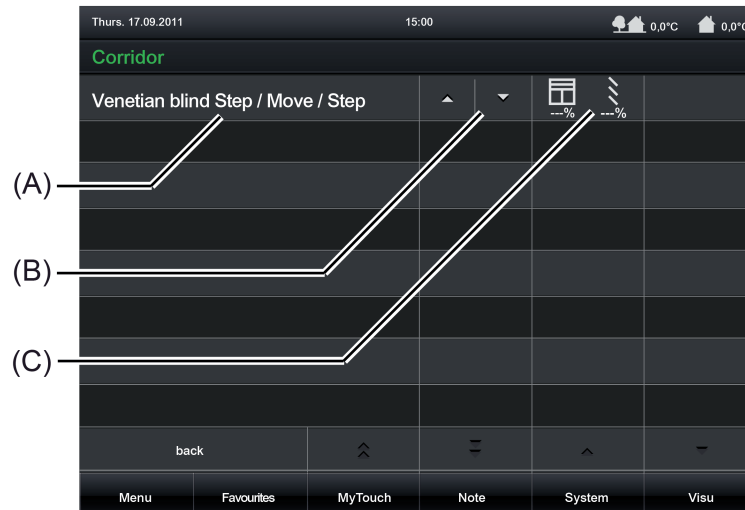

Figure 21: Example of operating and display elements of the function "Venetian blind Step / Move / Step"
The display area contains different display elements (Figure 21) that are influenced by parameters. A name can be assigned to each KNX function in the configuration software (A). The sensor surface for direct operation (B) displays two buttons, + and - depending on the configurations in the configuration software, which trigger corresponding value telegrams after a brief or long touch. The display area (C) will contain position values for blind/shutter height and slat position in plain text ("0...100 %") depending on the object value of the venetian blind actuator feedback. After a device reset, the display shows "---%" until a feedback object value of the status text is received.